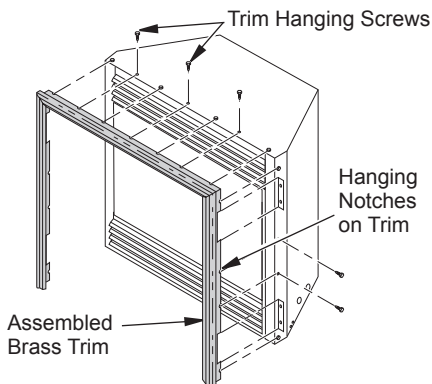

Figure 29 - Attaching Brass Trim to Fireplace
8. Tighten trim hanging screws (#10 x 6.25 shoulder) into holes in cabinets. Place the assembled trim onto fireplace cabinet. Align hanging notches on trim with hanging screws on side of fireplace (see Figure 29). Push trim firmly into place, sliding hanging notches over hanging screws.